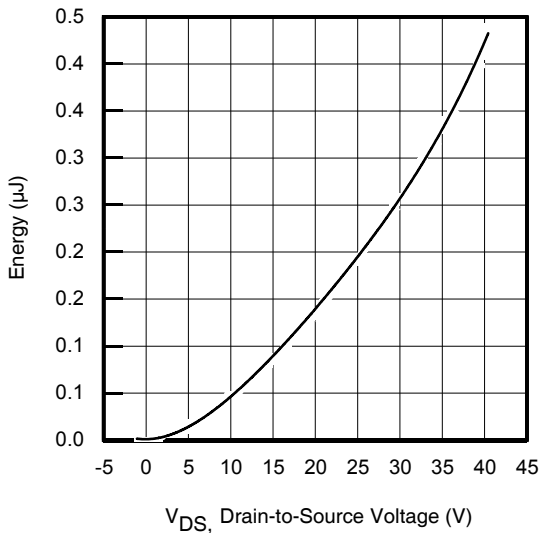

Fig. 11 Typical Coss Stored Energy
- ① Calculated continuous current based on maximum allowable junction temperature. Bond wire current limit is 100A by source bonding technology. Note that current limitations arising from heating of the device leads may occur with some lead mounting arrangements. (Refer to AN-1140)
- ② Repetitive rating; pulse width limited by max. junction temperature. (See fig. 11)
- ③ Limited by T_{Jmax}, starting T_J = 25°C, L = 0.039mH, R_G = 50Ω, I_{AS} = 76A, V_{GS} = 10V. Part not recommended for use above this value.
- ④ I_{SD} ≤ 76A, di/dt ≤ 1255A/μs, V_{DD} ≤ V_{(BR)DSS}, T_J ≤ 175°C.
- ⑤ Pulse width ≤ 400μs; duty cycle ≤ 2%.
- ⑥ C_{oss eff. (TR)} is a fixed capacitance that gives the same charging time as C_{oss} while V_{DS} is rising from 0 to 80% V_{DSS}.
- ⑦ C_{oss eff. (ER)} is a fixed capacitance that gives the same energy as C_{oss} while V_{DS} is rising from 0 to 80% V_{DSS}.
- ⑧ When mounted on 1" square PCB (FR-4 or G-10 Material). For recommended footprint and soldering techniques refer to application note #AN-994
- ⑨ R_θ is measured at T_J approximately 90°C.
- ⑩ Pulse drain current is limited by source bonding technology.